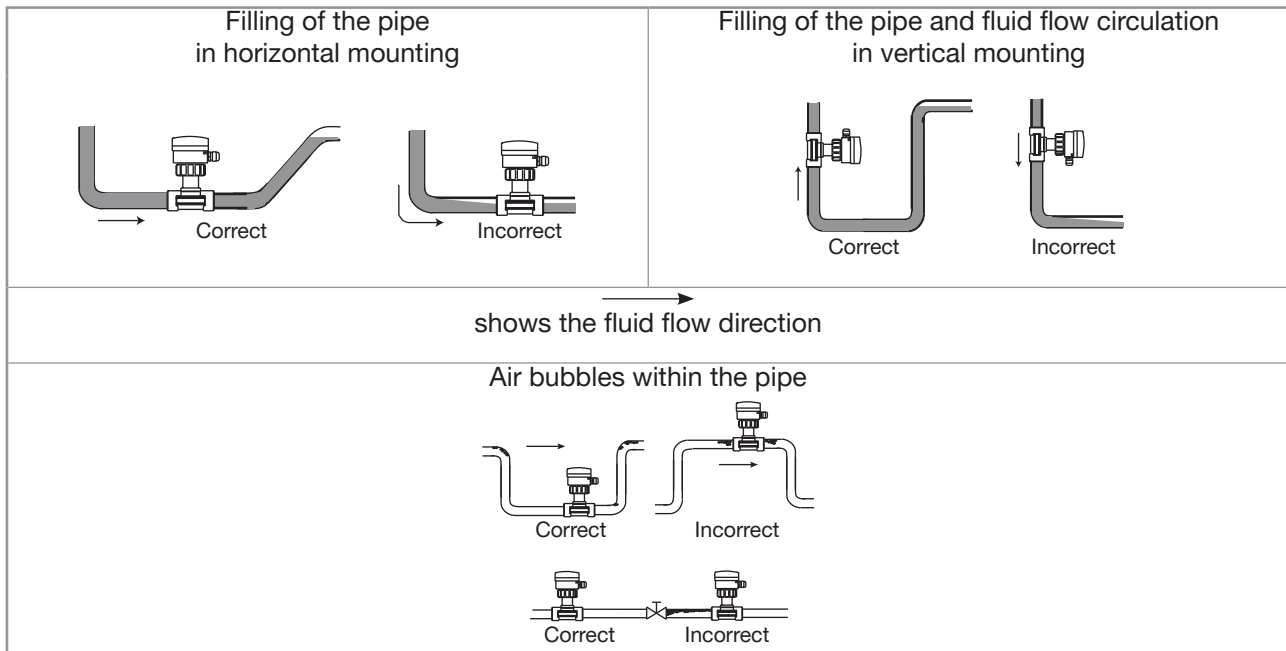

Fig. 5: Filling of the pipe, flow direction of the fluid, Vertical mounting Air bubbles within the pipe
- the pipes are always filled to the level of the sensor (see Fig. 5),
- when mounted vertically, the flow direction of the fluid is upwards (see Fig. 5),
- air bubbles do not form around the sensor (see Fig. 5).
- the pipes are always filled to the level of the sensor (see Fig. 5, chapter 7.2.1),
- when mounted vertically, the flow direction of the fluid is upwards (see Fig. 5, chapter 7.2.1),
- air bubbles do not form around the sensor-fitting (see Fig. 5, chapter 7.2.1).